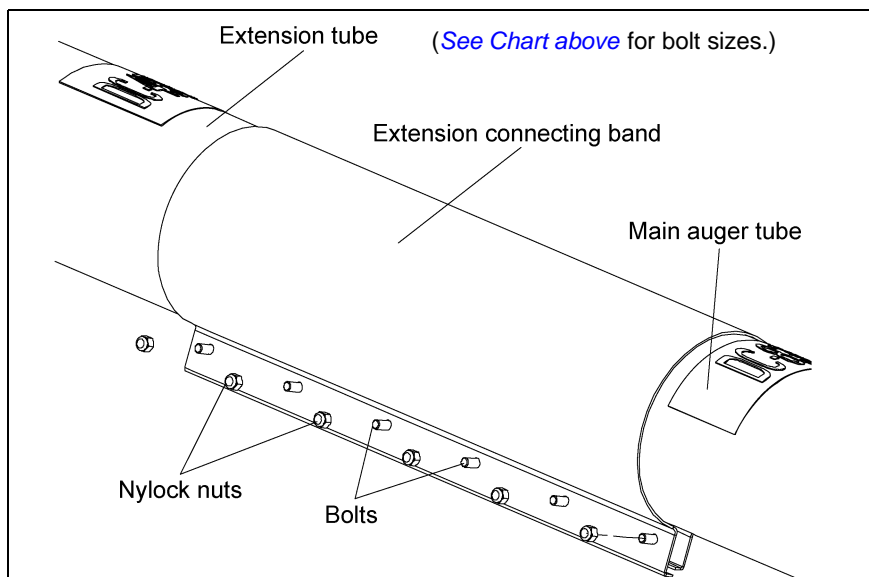

Figure 4O
- Slide the extension connecting band over the two (2) sections of tube, making sure the connecting band is centered over the mated surfaces of the tubes. Tighten the connecting band down using the correct hex bolts and nylock nuts. (See Chart below and Figure 4O.)